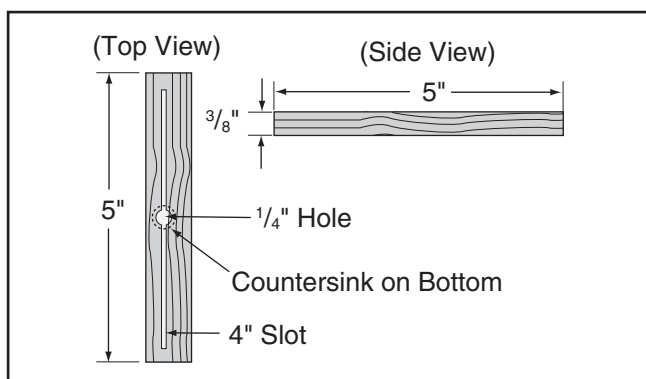

Figure 77. Miter bar pattern.
5. Cut a miter bar approximately 5" long that will fit in table miter slot, as shown in **Figure 77**.